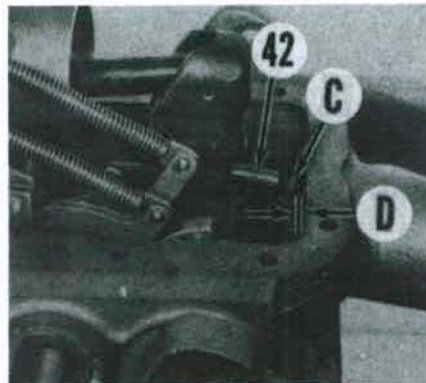

Fig. 218—Adjust draft control rod (42) so clearance (D) between capscrew (C) and lift cover casting is 5.84 mm (0.230 inch).
**219. DRAFT CONTROL ROD.** To adjust draft control rod (42—Fig. 218), move draft control lever to fully "UP" position. Be sure draft control rod is contacting master control spring plunger, then adjust control rod cap screw (C) until clearance (D) between head of screw